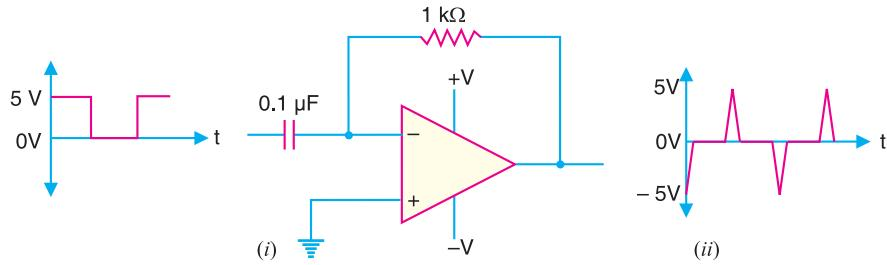

Fig. 25.90
**Example 25.54.** Fig. 25.90 (i) shows the square wave input to a differentiator circuit. Find the output voltage if input goes from 0V to 5V in 0.1 ms.
The signal quickly returns to zero as the input signal becomes constant. The output will be as shown in Fig. 25.90 (ii).